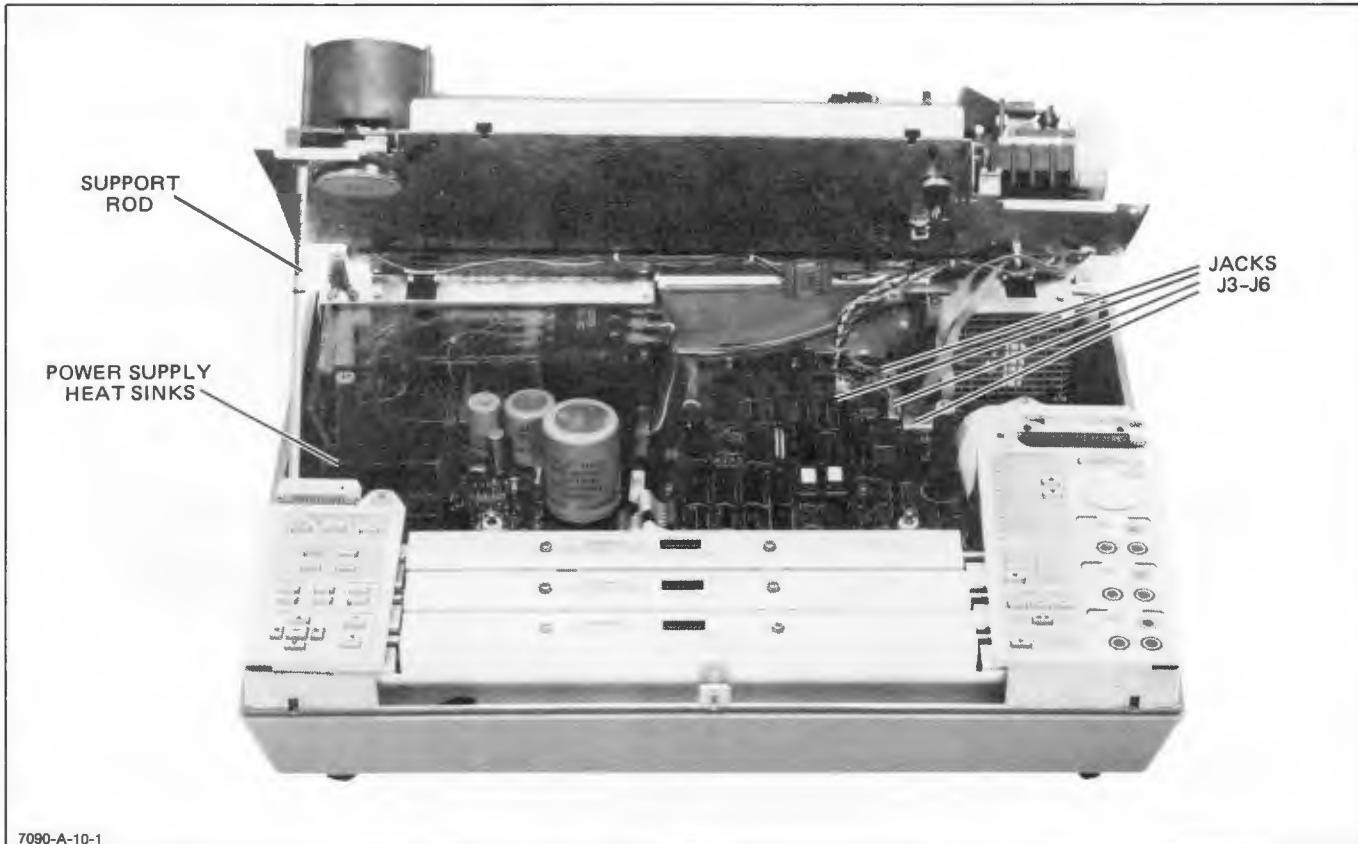

Figure 8-27. Base Chassis Removal
- e. Disconnect all cables from Main PCA jacks J3 through J6. See Figure 8-27.